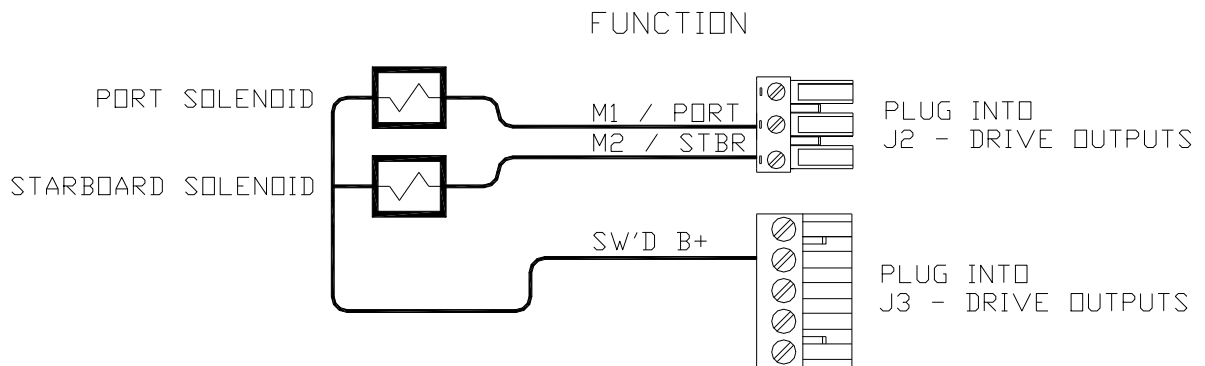
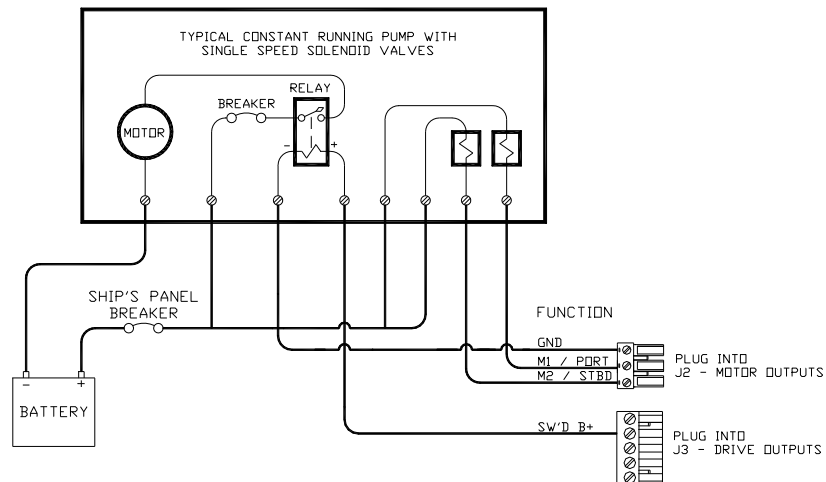

Figure 18 – Wiring Connections for Standard Four-Way Solenoid Valves
Figure 19 – Wiring Connections for a Constant Running Electric Pump
Connection to 12 VDC or 24 VDC solenoids should be made as per the diagram in Figure 18.
**NOTE:** The diagram in Figure 18 above assumes that an engine driven pump is used for the hydraulic system. In the case of an electrically powered constant running pump, use the following connection, shown in Figure 19: